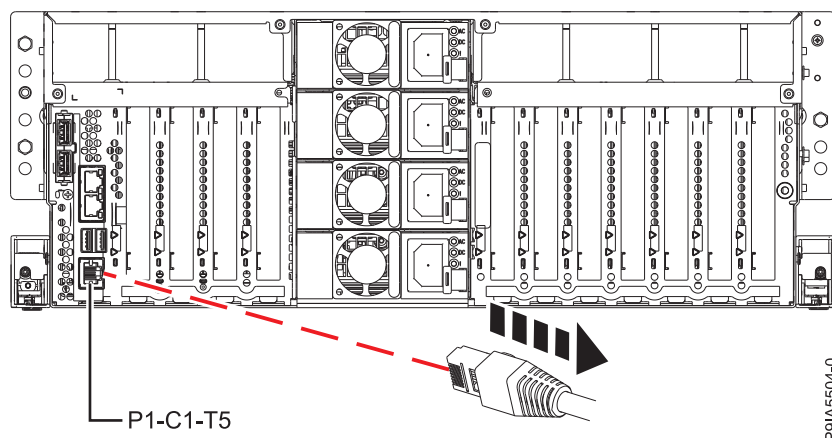

Figure 3. Removing the serial cable
2. Disconnect the serial cable indicated in the **FRU Location** field in the upper left of this page. See Figure 3.